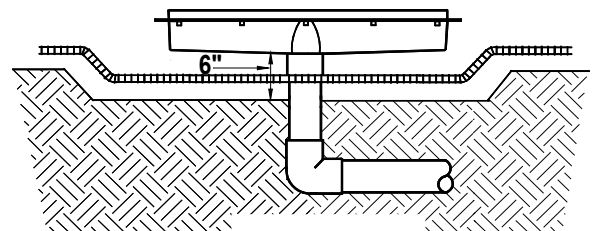

Figure 4
12. The steel re-bar must be bent so that the steel basket drops below the channel drain and is formed so that it is half way between the bottom of the Channel Drain and the bottom of the trench (see Figure 4).
10. Pack the concrete tightly under the Channel Drain and finish the wall around the drain to 1/2” below the lip, then make a finger wipe under the water stop of the drain so that finish material can be applied under the lip of the water seal (see Figure 4).